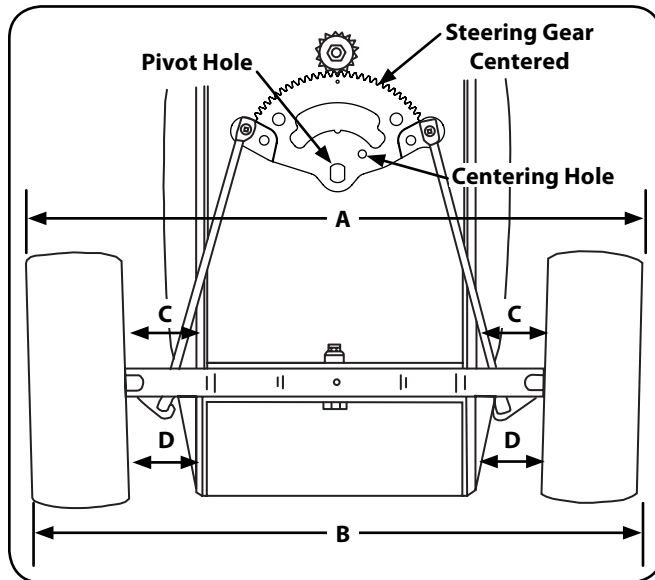

Figure 6-7
The front wheels should toe-in approximately $\frac{1}{8}$ to $\frac{1}{4}$ ", as measured across dimensions A and B. See Figure 6-7.
1. Check the steering gear to ensure it is in the centered position. The hole in the steering segment gear will align with the hole in the steering housing (See Figure 6-7).
3. Measure the distance between the bottom edges of the tractor frame channels and the marks on the front of each wheel (See measurement D in Figure 6-7). These two measurements should be equal.
4. Measure the distance between the frame and the marks on the rear of each front wheel (See measurement C in Figure 6-7). Measurement D should be approximately $\frac{1}{16}$ - to $\frac{1}{8}$ -inch less than measurement C on each side of the tractor.